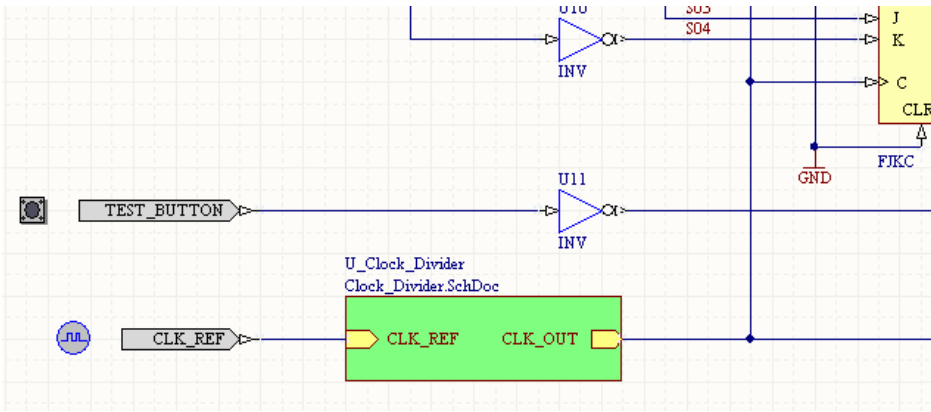

Figure 23. Simple_Counter schematic with sheet symbol for Clock_Divider.SchDoc sub-sheet placed and wired.
5. Wire the sheet symbol into the main circuit and next to the CLK_REF port component, as shown in Figure 23.